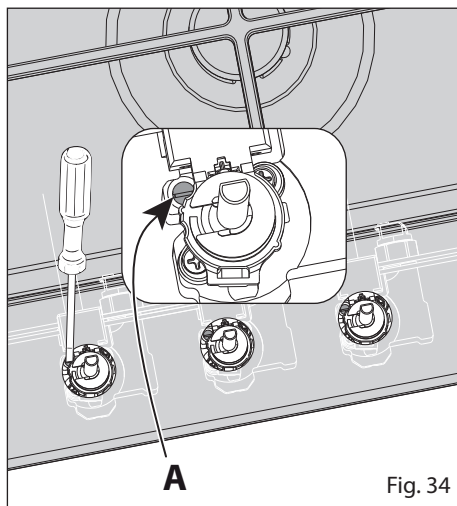

Fig. 34
- With a small flat screwdriver turn the screw "A" to the correct regulation (fig. 34).